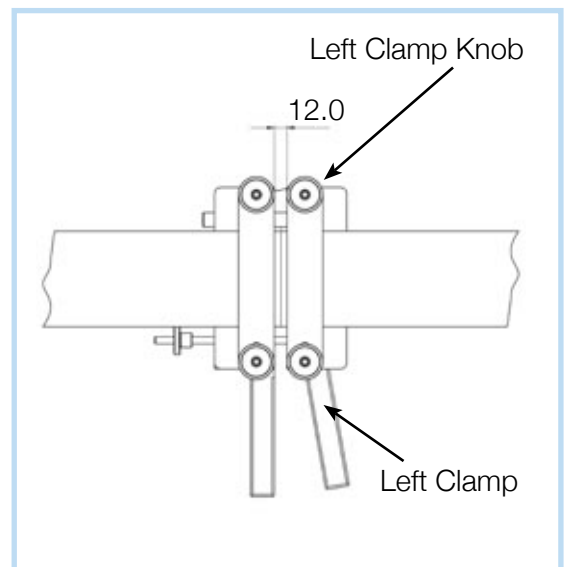

Figure 2
5. Open the pliers to form a gap of 12 mm (1/2") (See Figure 2). Loosen the right clamp knobs and swing the clamp out to permit positioning belt.
4. Set one belt end snug against the right clamp (A in Figure 2). Swing the left clamp into position and tighten the knobs.
6. Set the remaining belt end snug against the clamped belt end. Shift the belt 1.0 mm as shown in Figure 2.